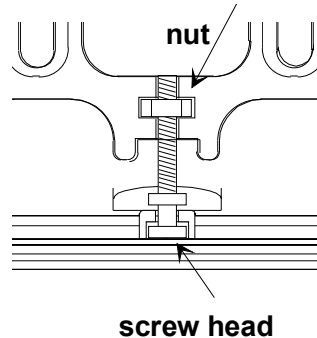

Figure 15. Mounting the Terminal Closure Guide (1)
2. Insert the nut and the special screw into the corresponding niche on the guide (see Figure 15).